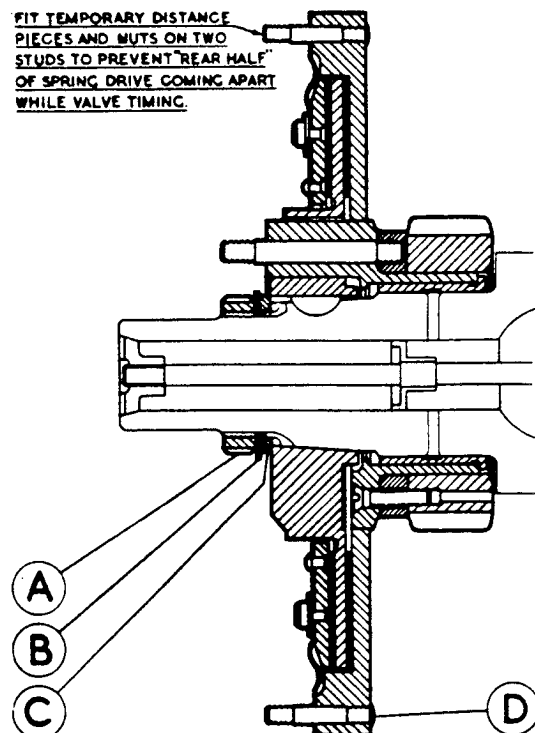
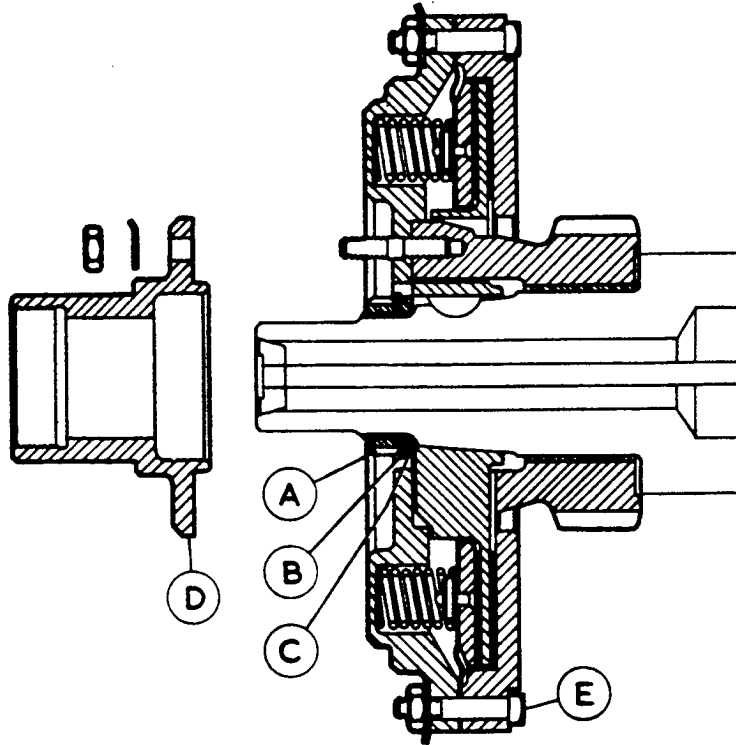

FIG.5 SECTION - 'REAR HALF' OF 'PRE-BENCH' TYPE CRANKSHAFT DAMPER (SPRING TYPE)
FIG.6 SECTION 'BENCH' TYPE CRANKSHAFT DAMPER
With the camshaft set in position, the procedure differs according to the type of crankshaft damper fitted. The early or 'Pre-Bench' type, was fitted from Chassis Nos. B-2-AK to B-126-DA inclusive and the later 'Bench' type from Chassis No. B-128-DA and onwards. The two dampers may be distinguished by the fact that the 'Pre-Bench' type has twelve studs (D, Fig.5) fitted to the rim of the rear damper wheel, whereas the 'Bench' type has six bolts (E, Fig.6).
- (v) Offer up the rear half of the damper, assembled as shown in Fig.5, to the crankshaft nose, and align the three keyways in the bore of the damper hub with the keys in the crankshaft nose.
- (vi) Fit the plain washer (C, Fig.5), a new locking washer 'B' and the serrated retaining nut 'A'. Tighten the nut with tool 3759/T1007 but do not lock.
First loosen the serrated nut 'A' (Fig.5) and with extractor 3759/T1016 or tool 1617/T1003, withdraw the damper about $5/16"$ from its fully home position on the crankshaft nose. Remove the camshaft gear and reposition it as required, ensuring that the circular locking plate is refitted.
- (ix) When the correct timing has been obtained, fit two of the four camshaft gear fixing studs, new lockwashers and nuts. Fully tighten and lock the nuts. Remove the two temporary setscrews and similarly fit the other two studs. Tighten and lock the serrated damper retaining nut (A Fig.5).
- (xiv) Fit the damper, assembled less the flanged hub D as shown in Fig.6, to the crankshaft nose. Fit the plain washer 'C', a new lockwasher 'B' and the serrated nut 'A'. Tighten the nut with tool 3759/T1007 but do not lock.
- (xviii) Refit the flanged hub 'D', Fig.6 to the damper, ensuring that the co-relation marks 'O' on the front damper wheel and the hub are in alignment.
- (iii) Offer up the rear half of the 'Pre-Bench' type damper assembled as in Fig.5, or the 'Bench' type damper less the flanged hub as in Fig.6, to the crankshaft nose, and align the three keyways in the bore of the damper hub with the keys in the crankshaft nose. Note the tooth on the camshaft gear which most nearly mates with the crankshaft pinion, and turn the damper and pinion in a CLOCKWISE direction two teeth relative to the camshaft gear. Turn the crankshaft in its running direction just sufficiently to re-align the keys and keyways and press the damper forward on to the crankshaft nose, engaging both keys and gears. To ease full engagement of the gears, rock the crankshaft at the flywheel end whilst urging the damper fully home.